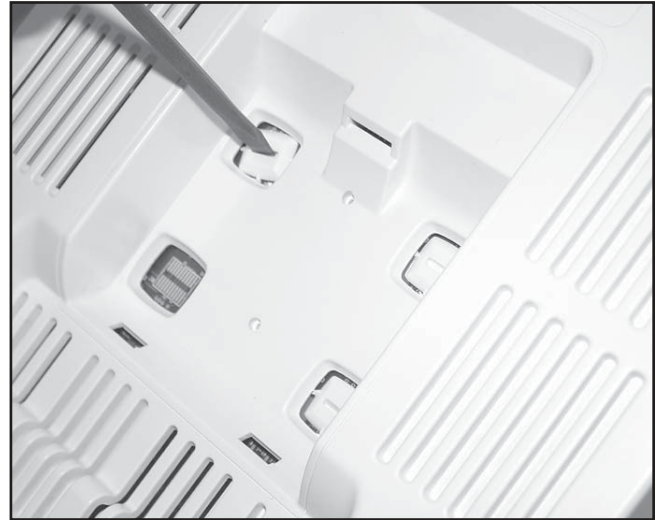

FIGURE 6.12
2. Using a Flat Blade Screwdriver, carefully remove the four breakout tabs on the System bottom. **See Figure 6.12.**